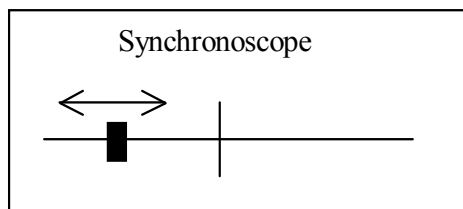

Figure 2-38 Synchronoscope
- ⊗ 2: Synchronoscope. The Synchronoscope is a graphic indicated that shows the difference in frequency and in phase angle of both systems during the synchronizing phase. Figure 2-38 shows the Synchronoscope when it is working.